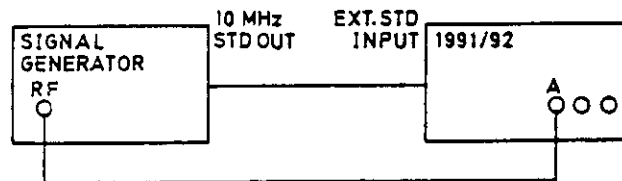

Figure 6.27 - Connections for Channel A Sensitivity PVP (I)
6.9.2.2 Channel A PVP (I)
- b. Connect the test equipment as shown in Figure 6.27. Check that the EXT STD LED lights